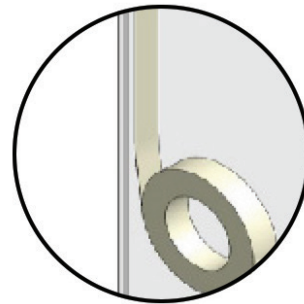

FIG 12.
- Hold glass to glass join in place with insulation/gaffa tape (FIG 12).